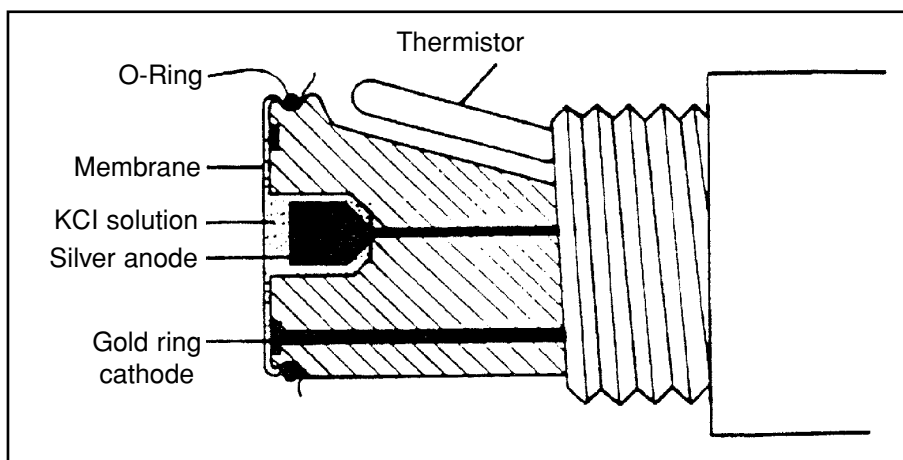

Figure 1. A cross section of a typical polarographic dissolved oxygen sensor.
**Polarographic or Clark sensors** use gold or platinum as the cathode and silver as the anode (Fig. 1). Polarizing voltage is applied to the cathode to cause the reduction of oxygen within the sensor.